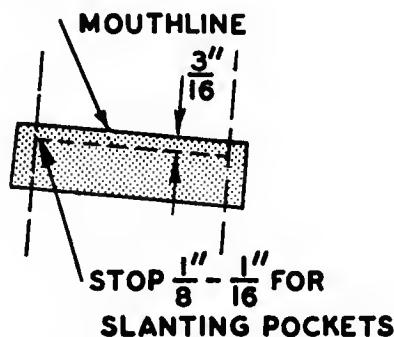

Fig. 120. Attaching the welt.
whereas stitching the seams  $\frac{3}{16}$  in. from the mouthline results in a  $\frac{3}{8}$ -to  $\frac{1}{2}$ -in. welt (Fig. 120).
- C. Stop the seam  $\frac{3}{16}$  to  $\frac{1}{8}$  in. from the vertical guide basting for slanting pockets. Straight pockets may be stitched to the vertical markings (Fig. 120).